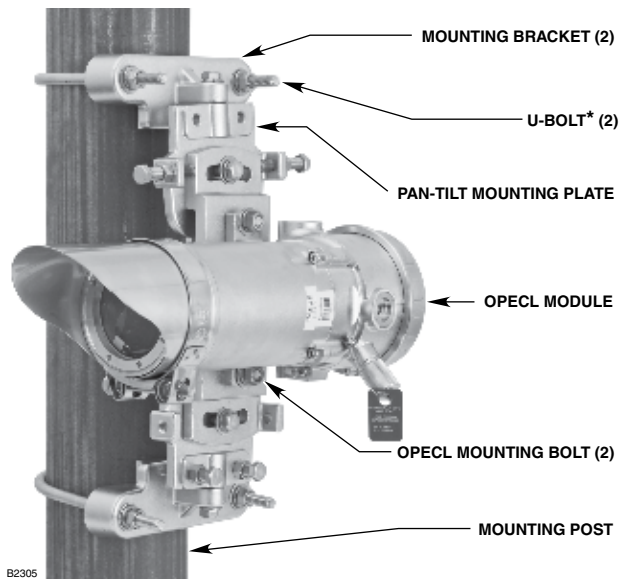

Figure 5—OPECL Gas Detector Mounted to Vertical Post
- A vertical post with a nominal outside diameter of 4.5" (11.43 cm). Acceptable outside diameter range is 4.0 to 5.0 inches. See Figure 5.